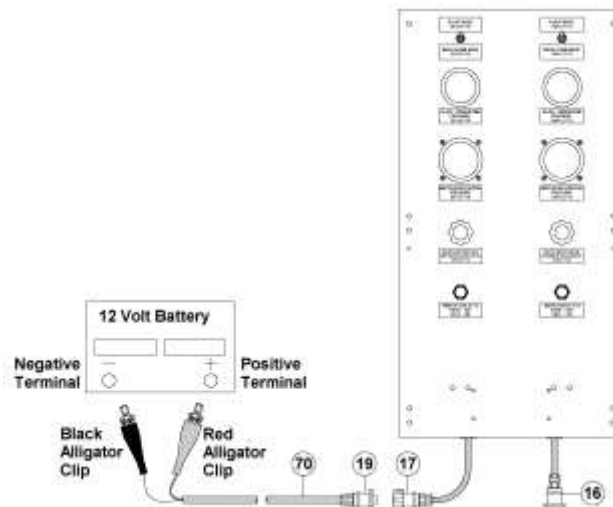

Figure 6.1 – Electric Power Connection
- 6.1.14. Connect the electric power cord alligator clips (#70) to the air compressor battery terminals or to another 12Vdc power source. See Figure 6.1.